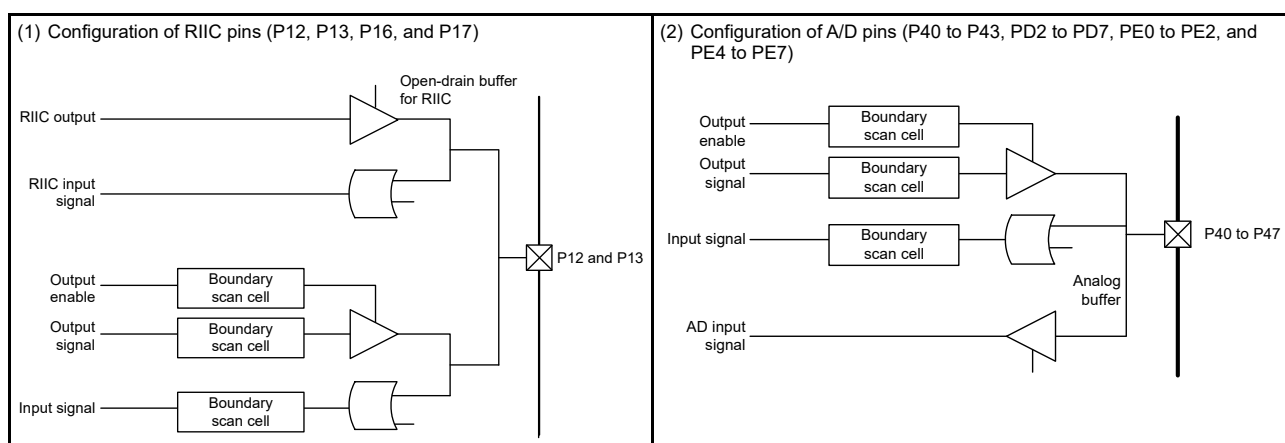

Figure 4.4 Pin Configuration
- (6) The reset pin (RES#) is not covered by boundary scan.
- (7) The USB dedicated pins (USB0_DP and USB0_DM) are not covered by boundary scan.
- (8) The on-chip emulator enable pin (EMLE) is not covered by boundary scan.
- (9) The boundary scan enable pin (BSCANP) is not covered by boundary scan.
- (10) The boundary scan pins (TCK, TMS, TRST#, TDI, and TDO) are not covered by boundary scan.
- (11) The RF transceiver pins, shown in Table 1.4, Pin Functions, are not covered by boundary scan.
- (12) The boundary-scan facility is not available when the chip is in the states below.
- (13) For a pin that incorporates open-drain functionality and for which the open-drain function is enabled, if the boundary-scan function sets the corresponding bit in the output scan register and output enable register to 1, executing an EXTTEST, CLAMP, or SAMPLE/PRELOAD instruction makes the pin output the high level rather than placing it in the high-impedance state.
- (14) Be sure to satisfy the standards for the boundary scan function when multiplex ports are used. Figure 4.4 (1) shows the pin configuration of the port pins on which the RIIC pin functions (P12, P13, P16, and P17) are multiplexed. When the boundary scan function is to be used while pins P12, P13, P16, and P17 are in use as the RIIC pins (SCL0[FM+], SCL2, SDA0[FM+], and SDA2), contention with the open-drain outputs or sneak current might be generated.
- (15) Figure 4.4 (2) shows the pin configuration of the pins P40 to P43, PD2 to PD7, PE0 to PE2, and PE4 to PE7. When the boundary scan function is used with pins P40 to P43, PD2 to PD7, PE0 to PE2, and PE4 to PE7 to be used as AD input pins (AN000 to AN003, ANEX0, ANEX1, AN100, AN102 to AN107, and AN110 to AN113), the conflict with the AD input or sneak current might be generated.
- (16) The HIGHZ mode option of the MD pin is not available.